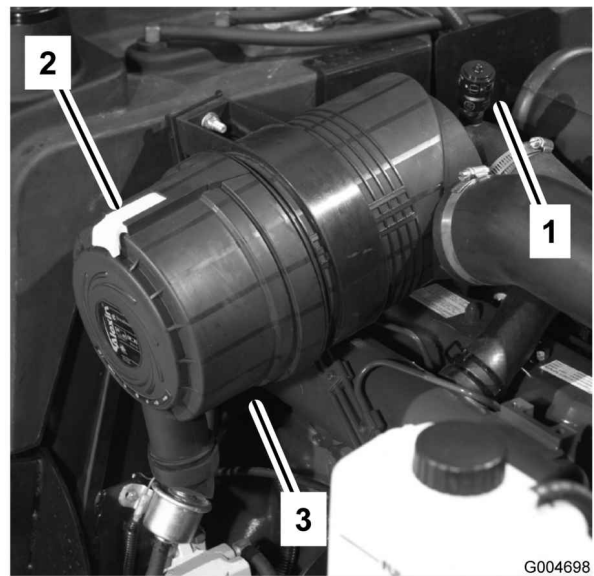

Figure 45
Service the air cleaner filters when the air cleaner indicator (Figure 45) shows red or every 400 hours (more frequently in extremely dusty or dirty conditions). Do not over-service the air filter.
1. Pull the latch outward and rotate the air cleaner cover counterclockwise. Remove the cover from the body (Figure 45). Clean the inside of the air cleaner cover.
6. Reset the indicator (Figure 45) if it shows red.